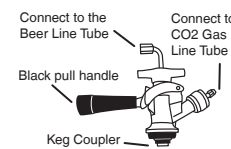
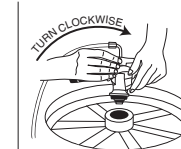

fig. 1
fig. 2
1. Make sure the black pull handle of the tap is in the closed (up) position before installing it on the keg (Fig. 1 - below). Insert the keg coupler into the locking neck of the beer keg and turn clockwise $\frac{1}{4}$ to lock it into position (Fig. 2 - below). This means that it is secured to the keg.